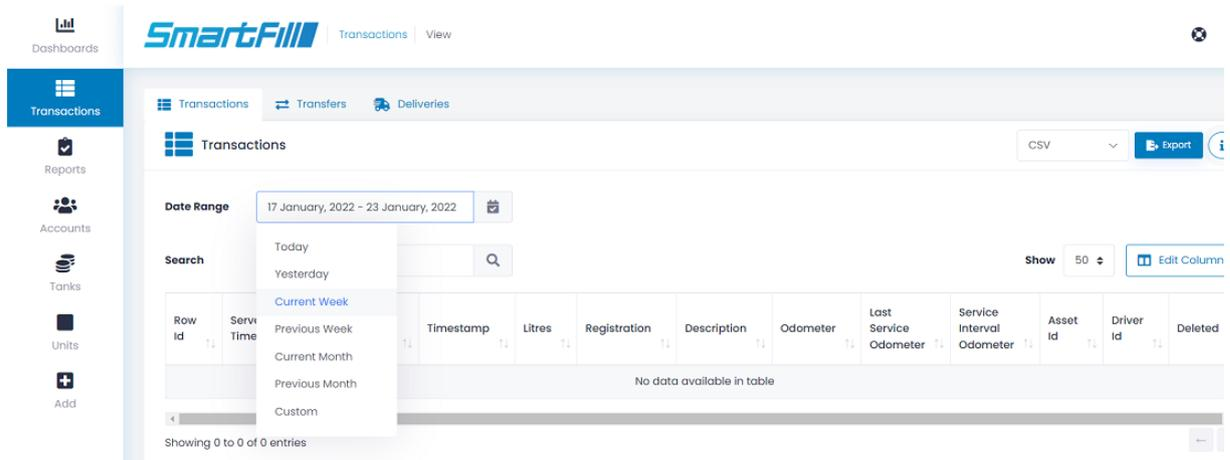

Figure 19: Website Transaction Page
**New Report** Click **New Report** to generate a new report. The report generated can either be viewed as a one-off, or saved for later use. Saved reports can be viewed from the Reports page. (Fig. 19)